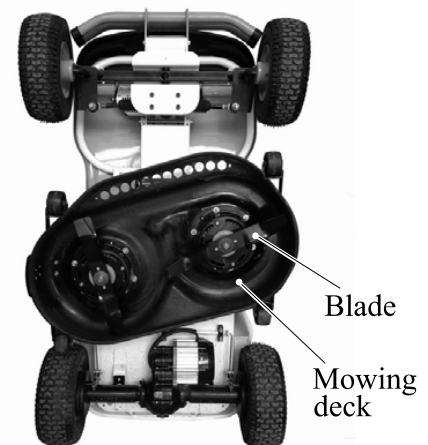

Fig 13
2. Turn your mower and make it stand on its rear bumper cover. **Fig 13**